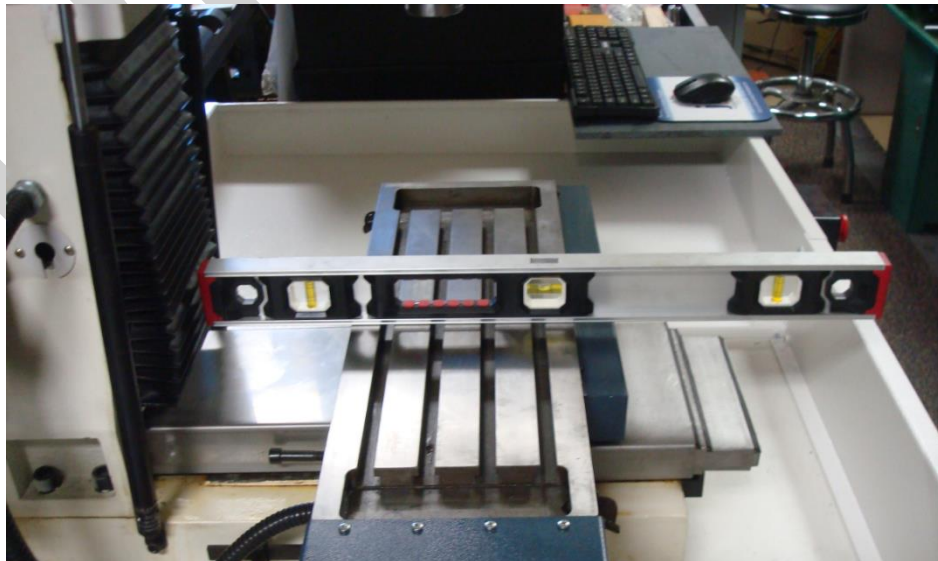

Figure 3-27 Parallel to Y-Axis
4. Once all the feet or leveling pads are touching the ground and the machine is not rocking, place a level on the mill table parallel to the Y-axis (Figure 3-27). Adjust the left and/or right side feet, up or down, to center the level bubble. By adjusting these feet, you are tilting the machine sideways around the Y-axis of the machine.